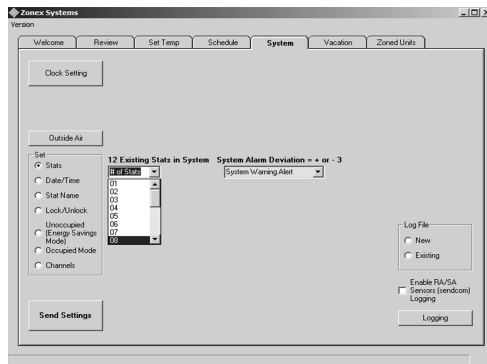

Fig. 11
1. Click on the **SYSTEMS** Tab, and click on the radio button next to **Stats** (see Fig. 11).
3. The program is equipped with a **System Alarm Deviation** function, or System warning alert (see Fig. 11), which allows the user to establish out of range temperature criteria from 3-10°. Whenever a thermostat exceeds the selected deviation from its heating or cooling setpoints, the current temperature will be highlighted in Yellow on the REVIEW Screen. If this feature is not required, select **00** to disable the alert; otherwise, select the temperature deviation.